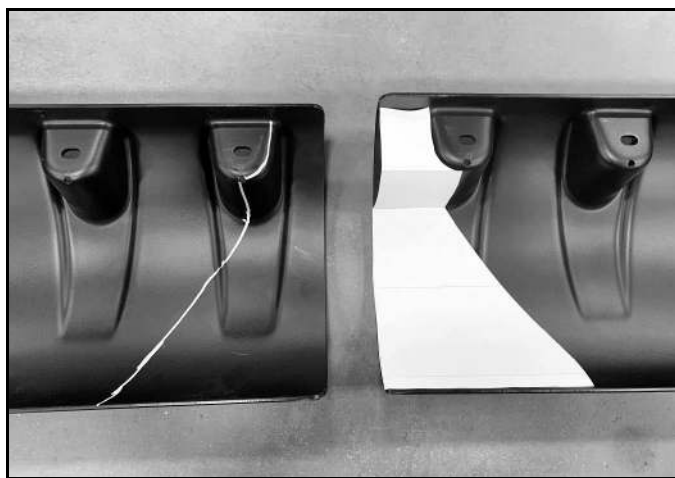

Figure 2
5. Reverse folds and lay templet onto 2nd deflector as shown in Figure 2. Draw a line along edge of templet.